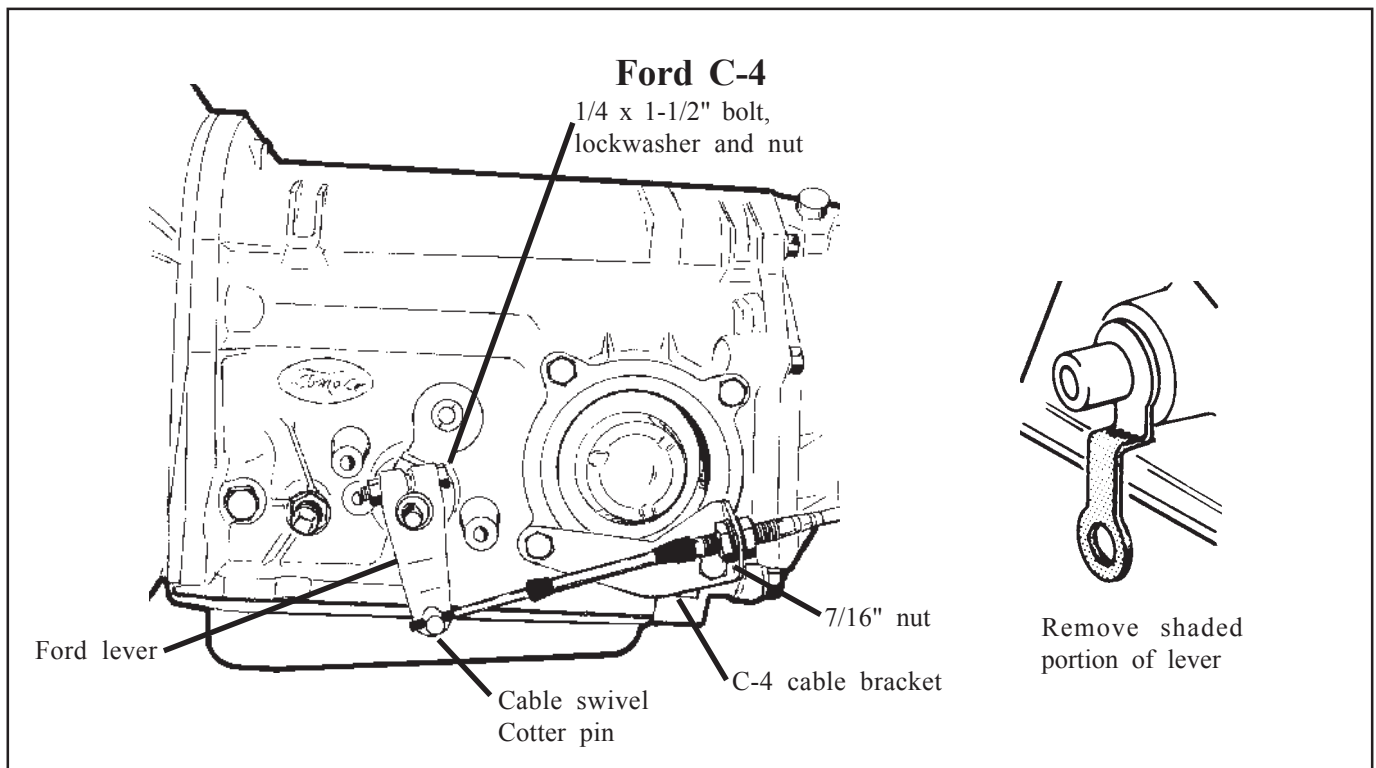

Figure 1
STEP 2. Install the **B&M** selector lever, See **figure 1**. Note: The B&M lever must point downward for proper operation. If the stock shift lever on your transmission points down, you will have to re-
move the lower part of the stock arm by cutting it off to clear the **B&M** lever, (See **figure 1**). Install **B&M** selector lever onto shift shaft of transmission. Align selector lever so when it points straight down it travels equal arcs in both directions from center, then tighten 1/4"-20 x 1 1/2" pinch bolt and nut. The lever should travel smoothly from front to back with a positive click in each gear position. Make sure O-ring is in position on downshift shaft and install downshift
STEP 3. Remove the two lower bolts from the rear servo cover. Install cable bracket in position, (See **figure 1**). Install two servo cover bolts as removed and tighten 12-13 ft. lbs. Do not overtighten as this can distort servo cover.